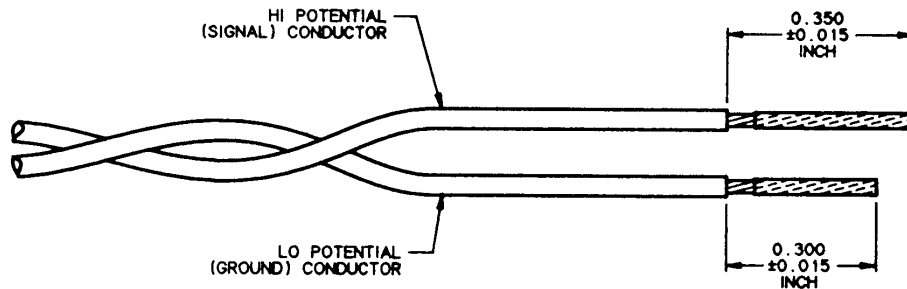

Figure 5-4. Trimming Dimensions for Twisted Pair Cables
5. Trim the cable conductors as shown in Figure 5-4.